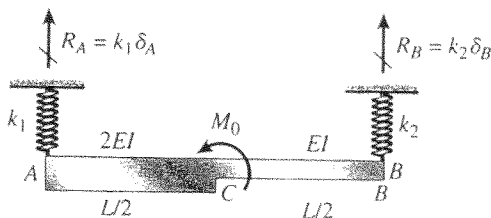

Fig. 4
4. Beam ACB of length $L = 3.0$ m hangs from two springs as shown in Fig. 4. The springs have stiffnesses $k_1 = 200$ kN/m and $k_2 = 100$ kN/m, and the beam has flexural rigidity $EI = 200$ kN-m². Determine the displacement and slope of the midpoint C of the beam when the moment $M_0 = 3.0$ kN-m is applied. (18%)